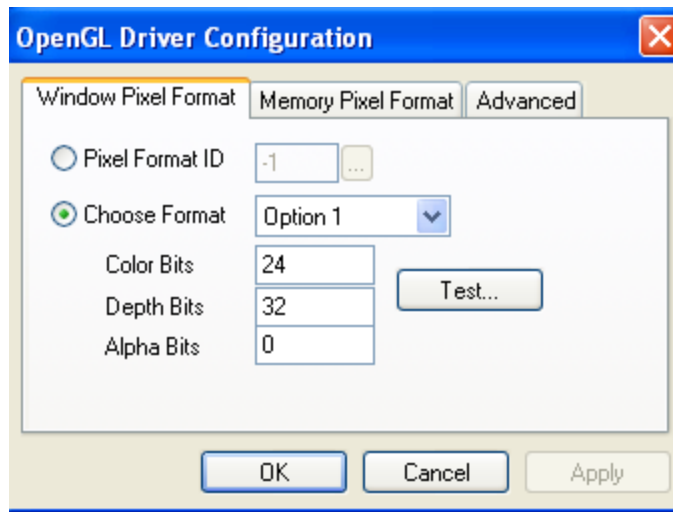

Figure 5-77 OpenGL Driver Configuration dialog box
4. In the *OpenGL Driver Configuration* dialog box (Figure 5-77), select Pixel Format ID and enter this number.